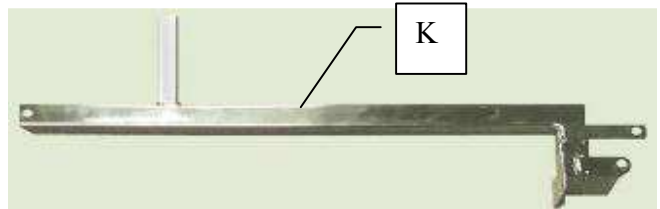

FIG. 3
A. R Lifting Arm (x4) B. Resting Arm (x4) C. Mounting Base (male side) (x2) D. Clamp Plate (x4) E. Right Arm Guide (x4) F. Left Arm Guide (x4) G. Handle (x2) H. Strap Loop (x4). Handle Receiver (mirror set of 2) (x 2). In addition, you will also have the Mounting Base (female side) (x2) as shown in Fig. 3.